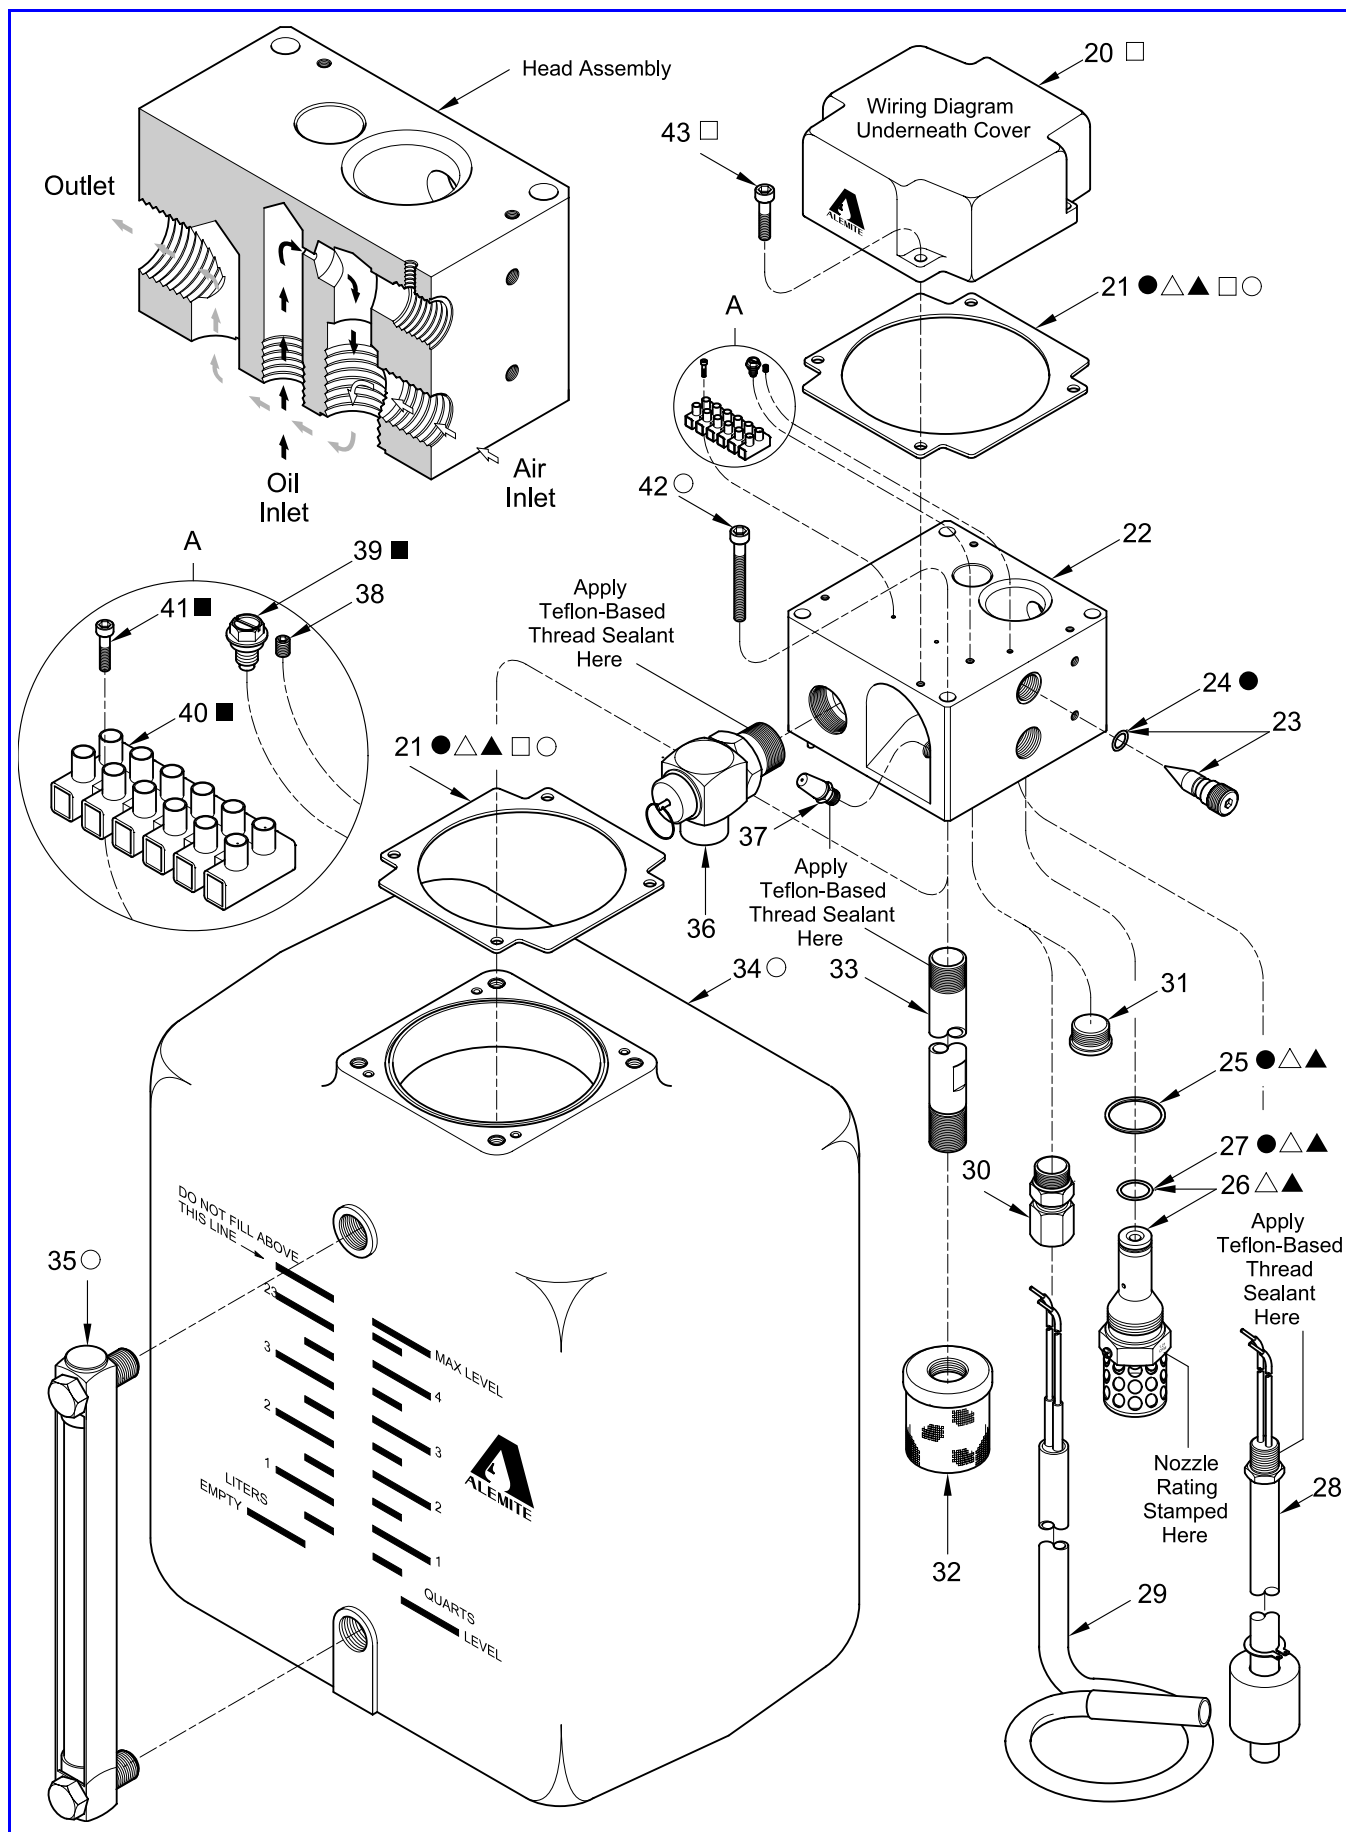

Figure 3 Lubricator Models 3942-B, 3942-C, 3943-B and 3943-C - Exploded View (w/ Section View of Head Assembly)
A wiring diagram mounts on the underneath side of Cover (20) for systems that include the low-level switch and/or the oil heater. See **Figure 3**.
NOTE: Lubricate O-Rings **24** and **27** with clean oil prior to installation. See **Figure 3**.